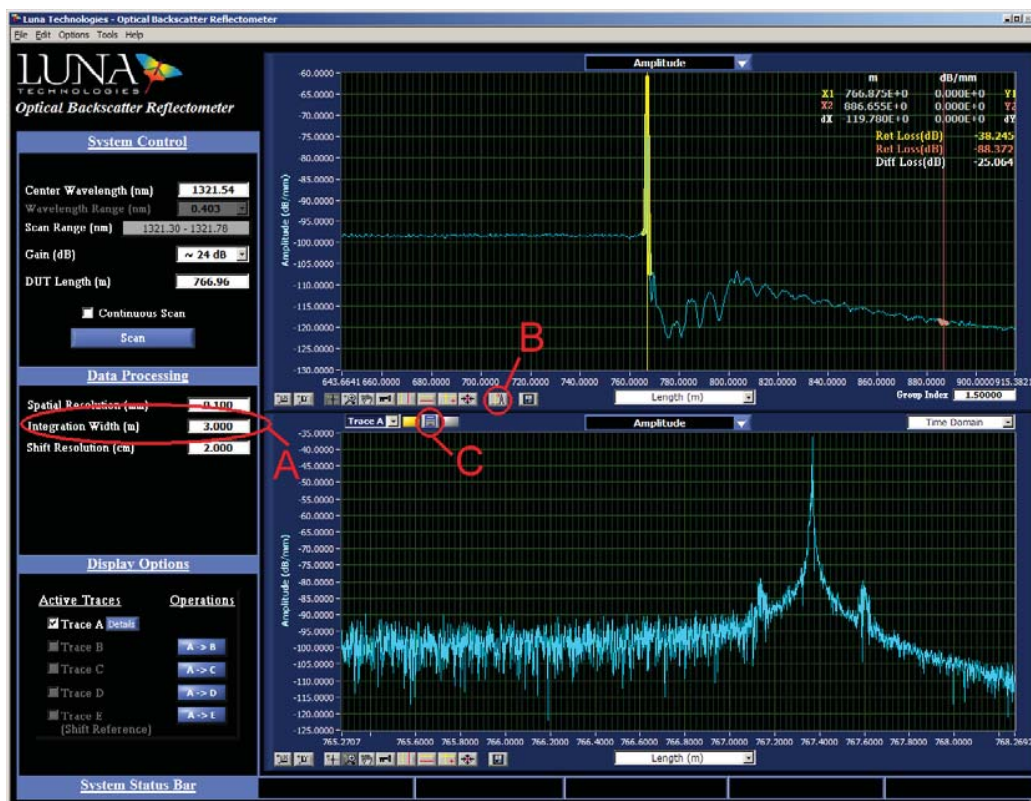

Figure 9: OBR analysis software showing integration width entry field (A), find peak feature (B), and calculate lower graph (C)
iii. In the “Integration Window” field (labeled ‘A’, Figure 9), enter a length such that the highlighted region encompasses the peak.
iv. Click on the “Find Peak” button (labeled ‘B’, in Figure 9). This will center the integration window on the peak of interest. An approximate value of the peak location may be obtained from the color-coded menu on the right, top corner of the upper graph.
v. A more accurate measurement may be obtained by moving the highlighted data to the lower graph, where the data subset will be displayed at maximum resolution. To do this, click on the “Calculate” button (labeled ‘C’, Figure 9).